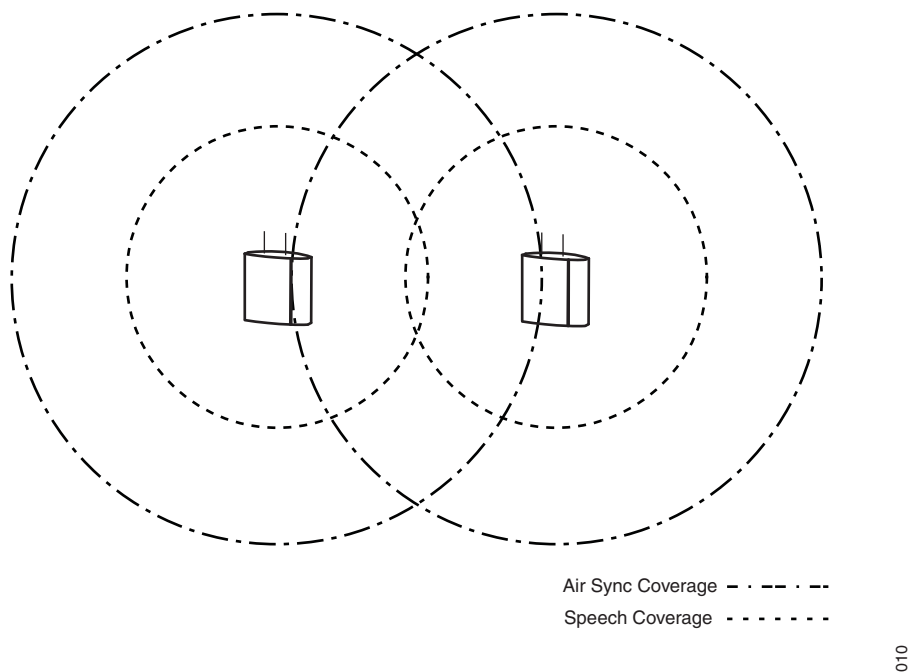

Figure 10. Air- and speech sync radius.
**Speech coverage:** the radius of the circle (circular radiation patterns of the IPBS antennas are assumed for reasons of simplicity), around a particular IPBS, in which portable parts can communicate with that IPBS, see figure 10.
**Sync coverage:** the radius of the circle, around a particular IPBS, in which other IPBSs can synchronize with that IPBS with a given synchronization loss probability. This means that the size of the sync radius depends on requested probability of losing synchronization, see figure 10.